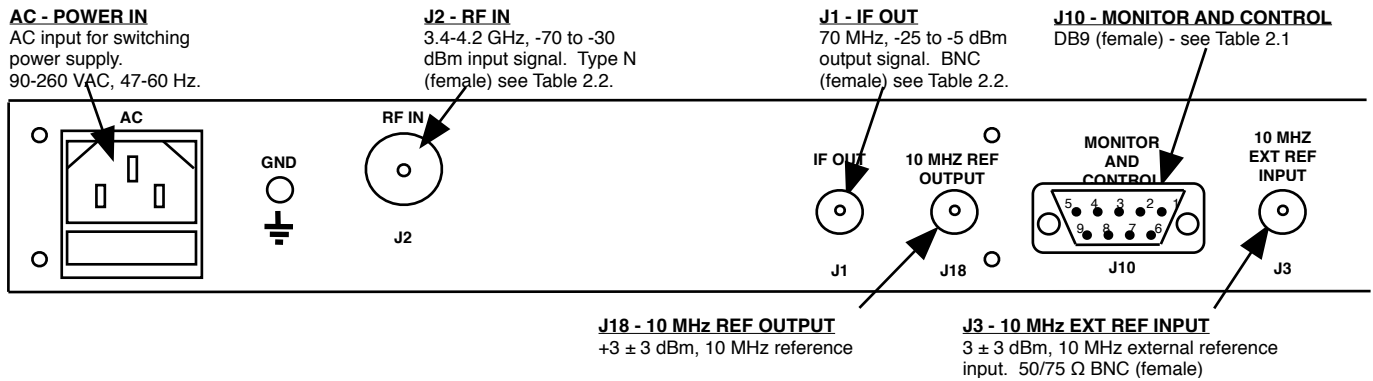

FIGURE 2.2 2016-3442 Rear Panel I/Os
Figure 2.2 shows the input and output connectors on the rear panel.
1. Connect a -70 dBm to -30 dBm signal to RF IN, J2 (Figure 2.2)